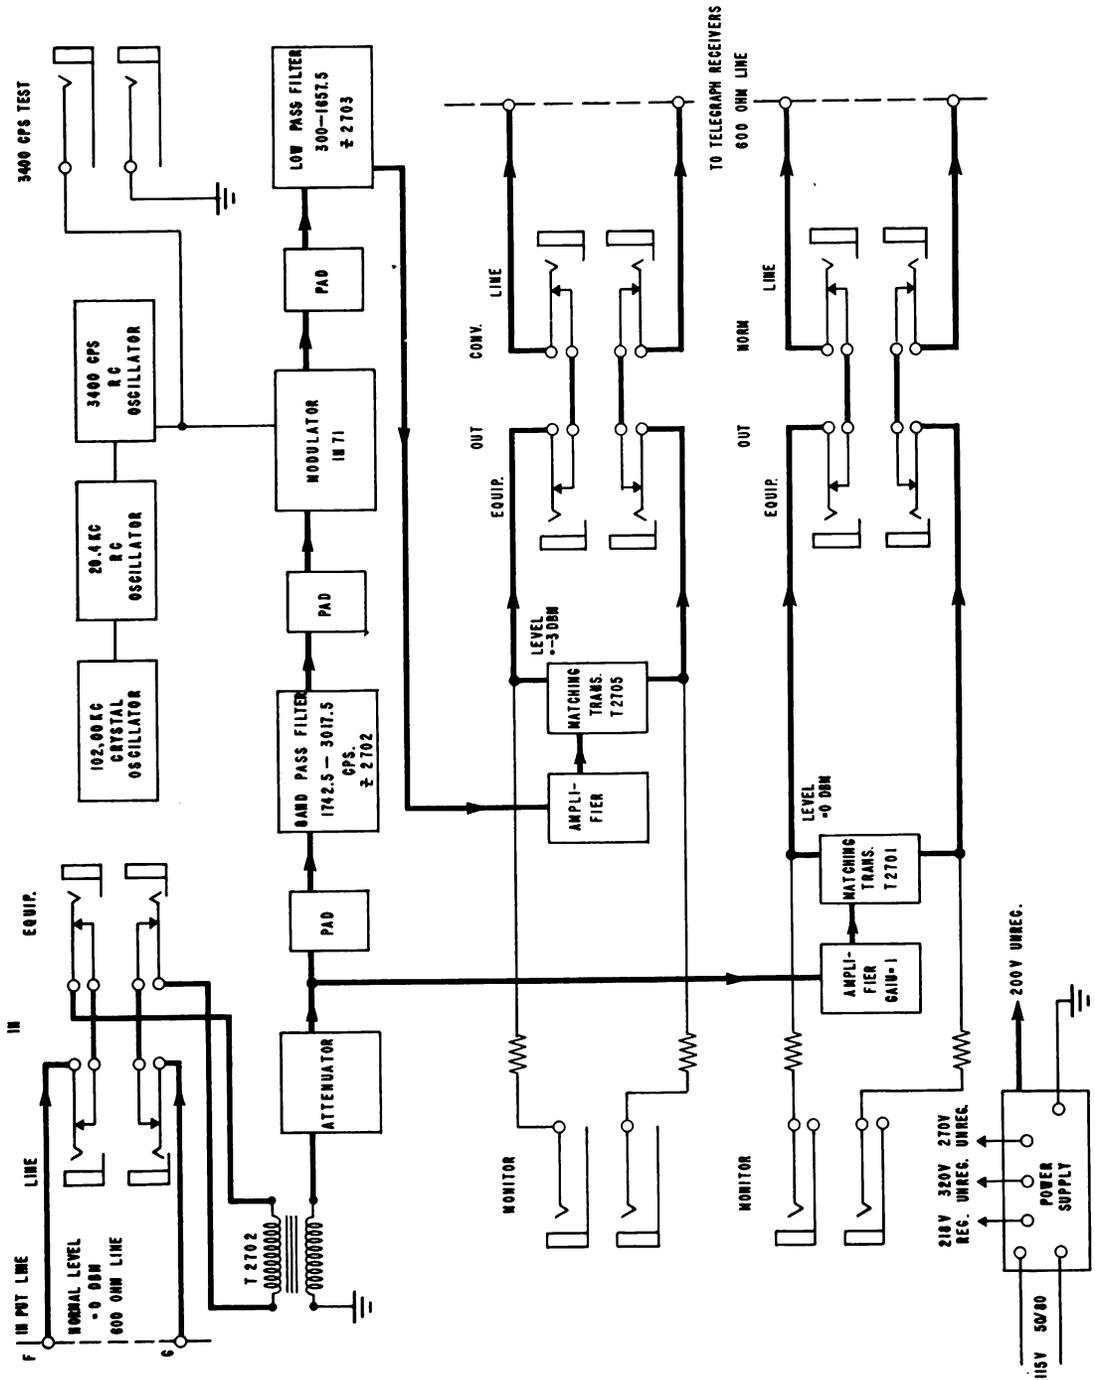

Figure 2-21. Block Diagram of Electronic Frequency Converter CV-244/FCC-3
a. BLOCK DIAGRAM. - The block diagram of figure 2-21 shows the principal circuits of the Electronic
Frequency Converter CV-244/FCC-3. This equipment accepts telegraph carrier signals from the Electronic Frequency Converter CV-243/FCC-3 in the frequency range of 382.5 to 3315 cycles per second, separates the frequency band of 1742.5 to 3017.5 cycles, shifts it from 382.5 to 1657.5 cycles, and transmits it to a set of telegraph receivers. A line amplifier with an overall gain of one, amplifies the complete audio frequency range and transmits the 382.5 to 1657.5 cycle band of the input signal to another set of telegraph receivers. As shown in the block diagram of figure 2-21, the incoming signal from the line is transformed with a 1:1 isolation transformer and attenuated with a 20-step variable ATTENUATOR of 2 db steps. The output of the attenuator is applied to the line amplifier for normal channels and also to the band-pass filter through a 3 db T-pad. The purpose of this is to maintain a proper match for the filter when the variable attenuator is set at zero. Signal frequencies in the range of 1742.5 to 3017.5 cycles are passed by the filter Z2702, whose output is matched with a T-pad to the 1N71 modulator. Since the modulator bridge is supplied with the 3400 cycle voltage output of the oscillator and frequency divider circuits, the output voltage of the